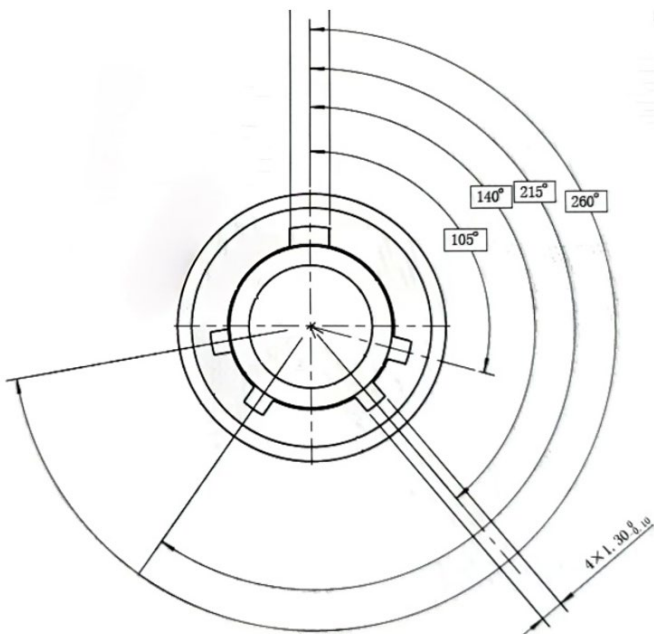

Figure 8. Key diagram 1
See Figure 8 for the schematic diagram of key 1 of products with shell numbers 10 and 12. The model numbers are ZH127-1-19/12-P4-1-B, ZH127-2-10/10-P3-1-B, ZH127-2-4/10-P3-1-B.